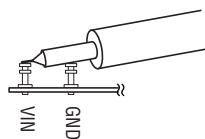

Figure 2. Scope Probe Placement for Measuring Output Ripple
**NOTE:** When measuring the output ripple, see Figure 2 for proper scope probe technique.